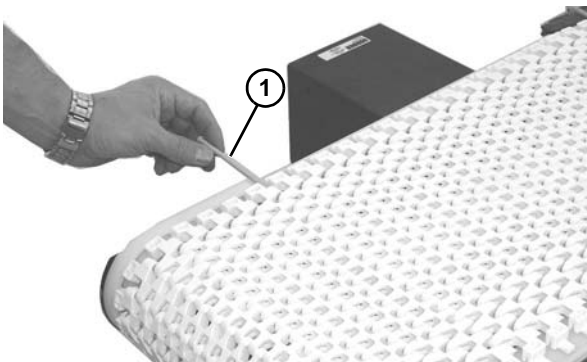

Figure 20
8. Insert the belt rod (Figure 20, item 1).